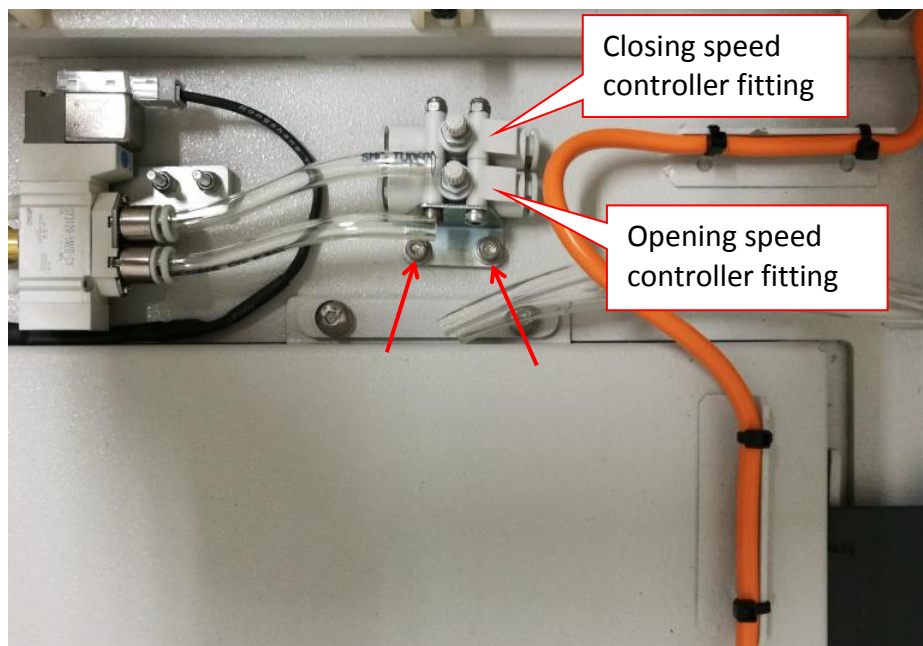

Figure 2 Speed controller fitting removal
4. Remove 2 x Screws & Speed Controller Fittings as Figure 2.